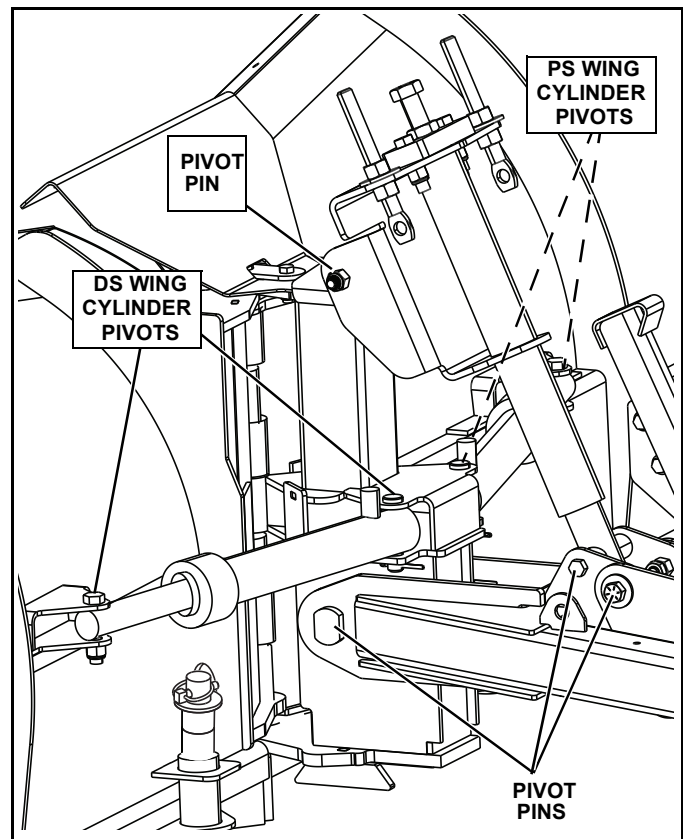

Figure 2-2
4. Apply a small amount of light oil to the wing cylinder pivot pins and to pivot pins between the blade assembly, A-Frame, and spring brackets. (See Figure 2-2.)